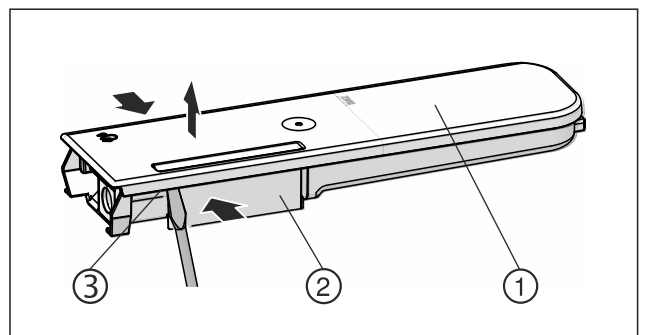

Fig. 128
- ▶ Push the water tanks Fig. 128 (2) together, leverage the cover Fig. 128 (1) carefully over the latching tabs Fig. 128 (3) and lift it up.
- Move the cover Fig. 128 (1) slightly forwards and back, and remove to the top.